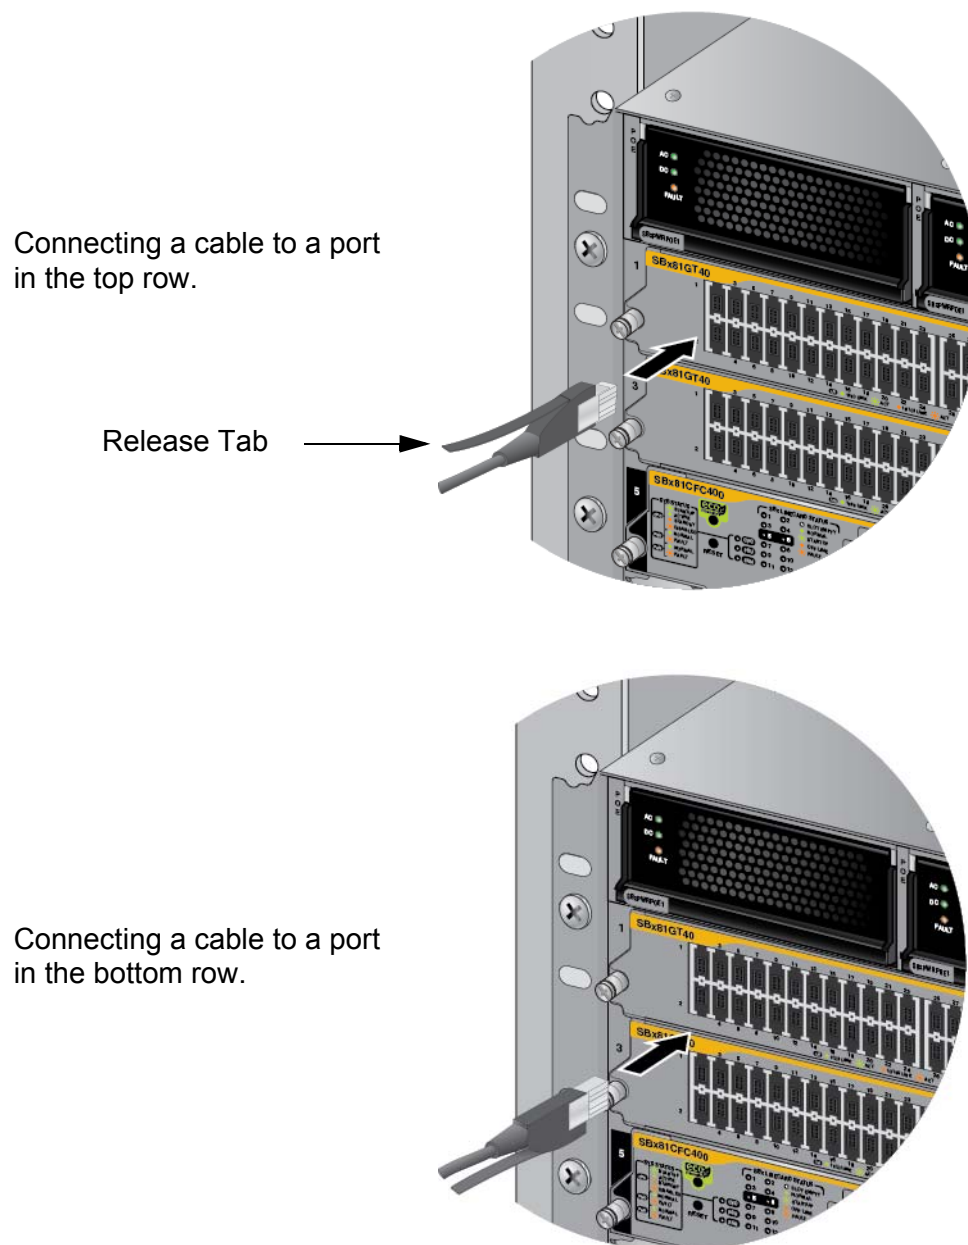

Figure 79. Connecting Cables to Ports on the AT-SBx81GT40 Line Card
- ❑ To connect a cable to a port in the top role on the line card, orient the connector with the release tab on top. To connect a cable to a port in the bottom role, orient the connector with the release tab on the bottom. Refer to Figure 79 on page 126.